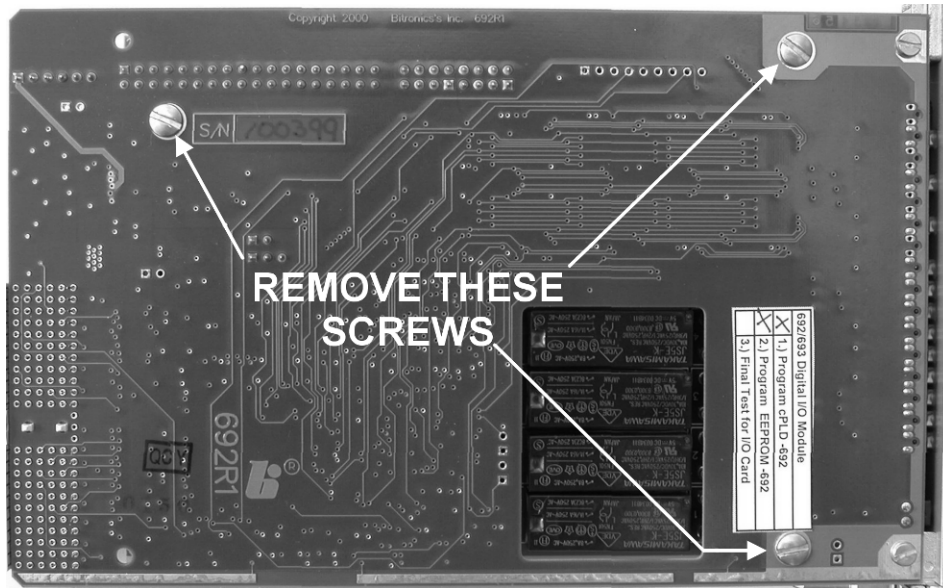

Figure 13 - P30A Module Disassembly
1. Remove the six screws (three per side) indicated in Figure 13, and set aside the shields labeled PCB 712. Identify the main circuit boards that comprise the P31 assembly. They are labeled 693, 692, and 716.